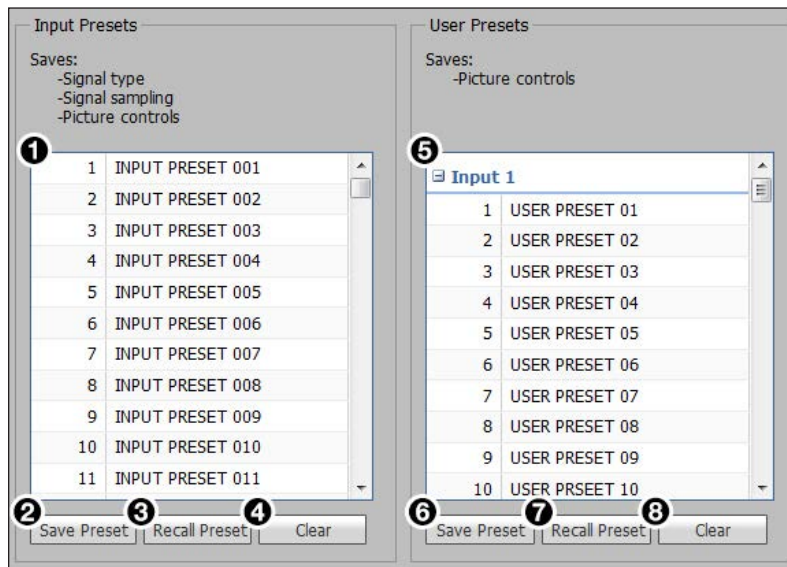

Figure 67. Input and User Presets Panels
1. From the Input Presets list (see figure 67, **1**, on the previous page) or the User Presets list (**5**), select the desired preset.